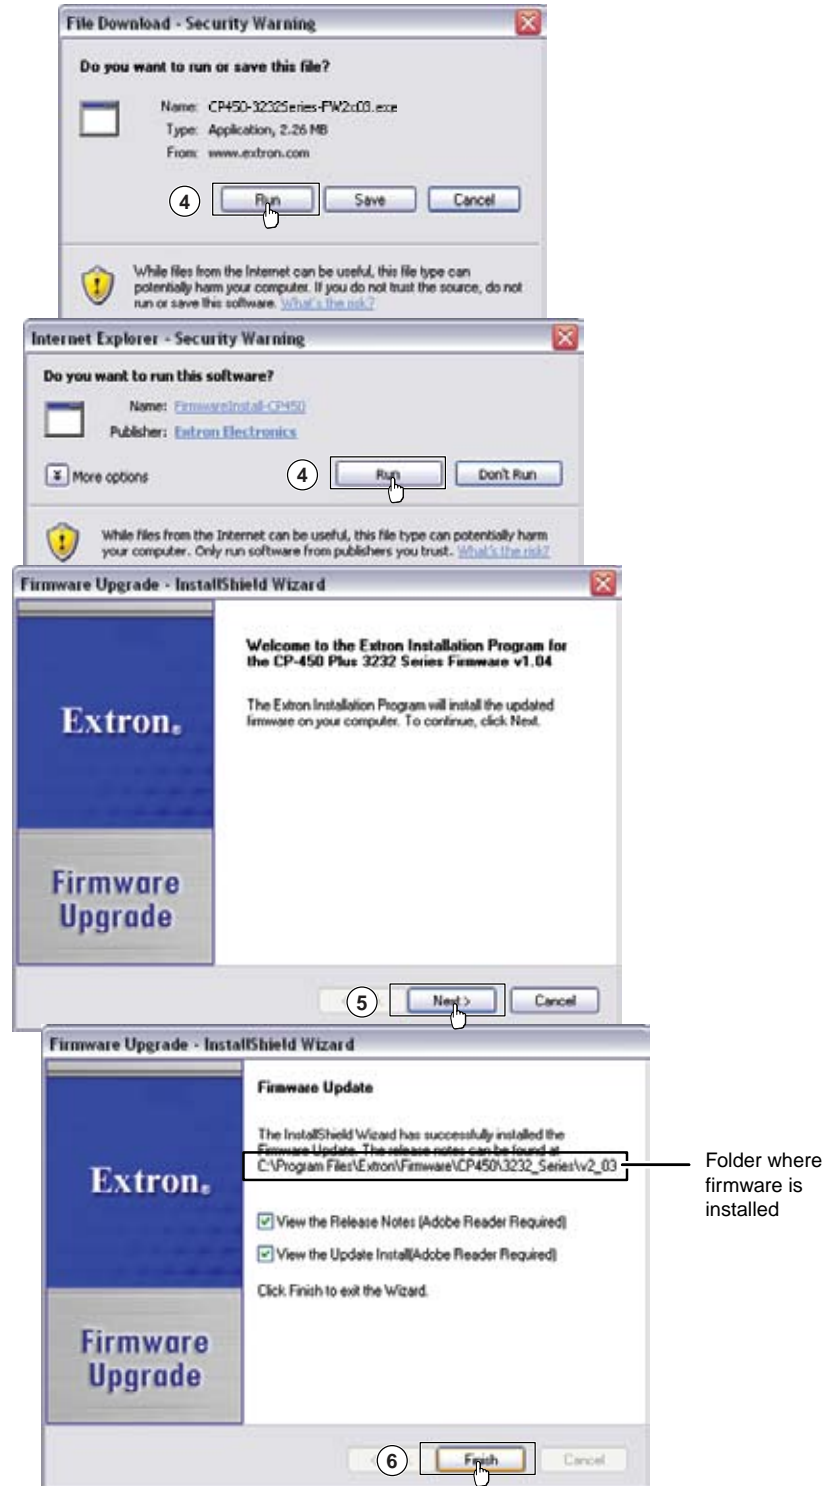

Figure 5-10 — Downloading firmware upgrade files
4. Click **Run** twice (figure 5-10). The PC downloads the firmware update from the Extron Web site and starts the Extron Installation Program to extract the firmware file.